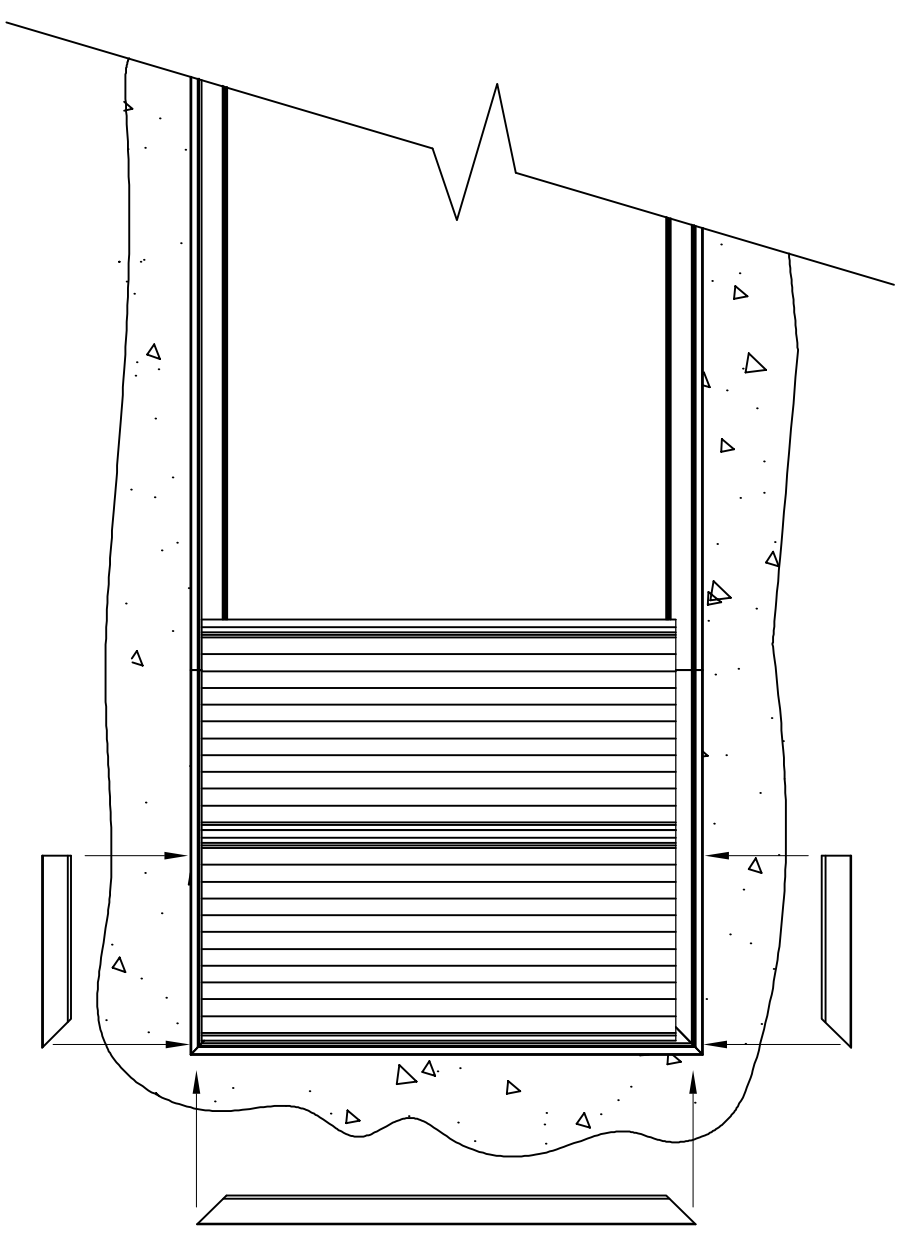

Fig 8
- 5.) With both panels in place the next step will be to install the pressure retainer. See Fig 8.